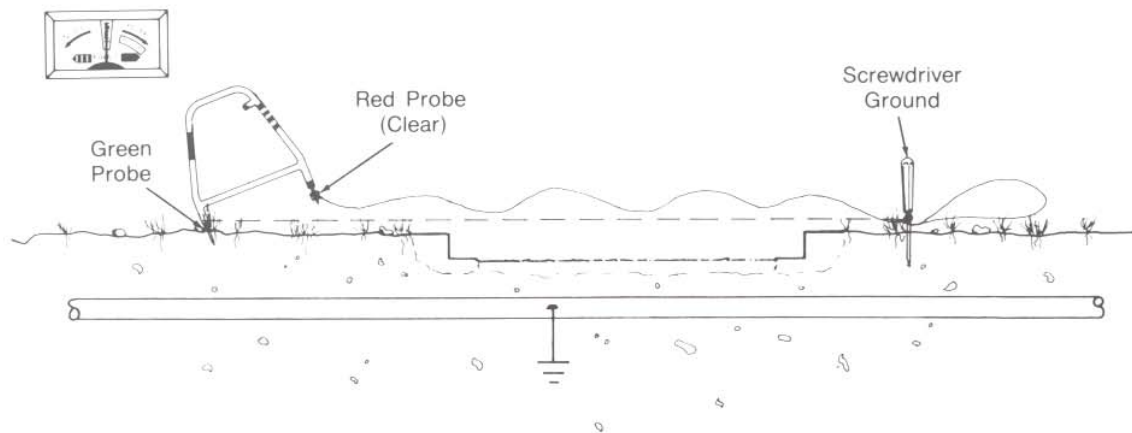

Fig. 21 — Fault Location - Extended Frame Method
- 1) Insert the green probe in earth on the far side of the fault, and hold the red leg clear. Strip about 10 inches of an insulated conductor such as cross-connect wire and take several metallic turns around the red leg. Pull out enough wire to equal twice the width of the road. Strip another ten inches of insulation from the far end and wrap it around a screwdriver. Ground the screwdriver at a point in line with the cable path across the road from the receiver. The screwdriver acts as an extension of the frame's red probe (see Fig. 21).